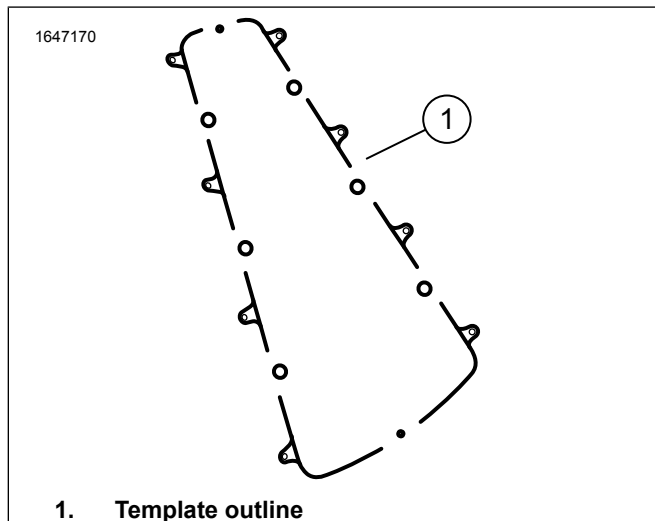

Figure 9. Template Outline
- a. Mask off entire drill template (2) area on right saddlebag (1) with masking tape.
- b. Install drill template (2).
- c. Secure entire perimeter of drill template (2) with tape.
- d. Install tapping screws (3) to hold down drill template (2).
2. See Figure 9. Using a marker, trace drill template outline (1) onto saddlebag's masking tape.
- e. See Figure 9. With drill template still in place and using an appropriate saw, cut along the outer part of template outline (1).
- f. Remove tapping screws (3), drill template and tape from saddlebag.
- g. **Grommet Hole:** Drill 3/4-inch grommet hole (5) where tapping screw (3) was removed.